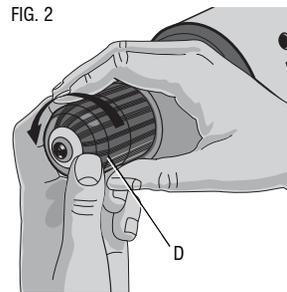

FIG. 2
1. Grasp the rear half of the chuck with one hand and use your other hand to rotate the front half counterclockwise, as shown in Figure 2. Rotate far enough so that the chuck opens sufficiently to accept the desired accessory.